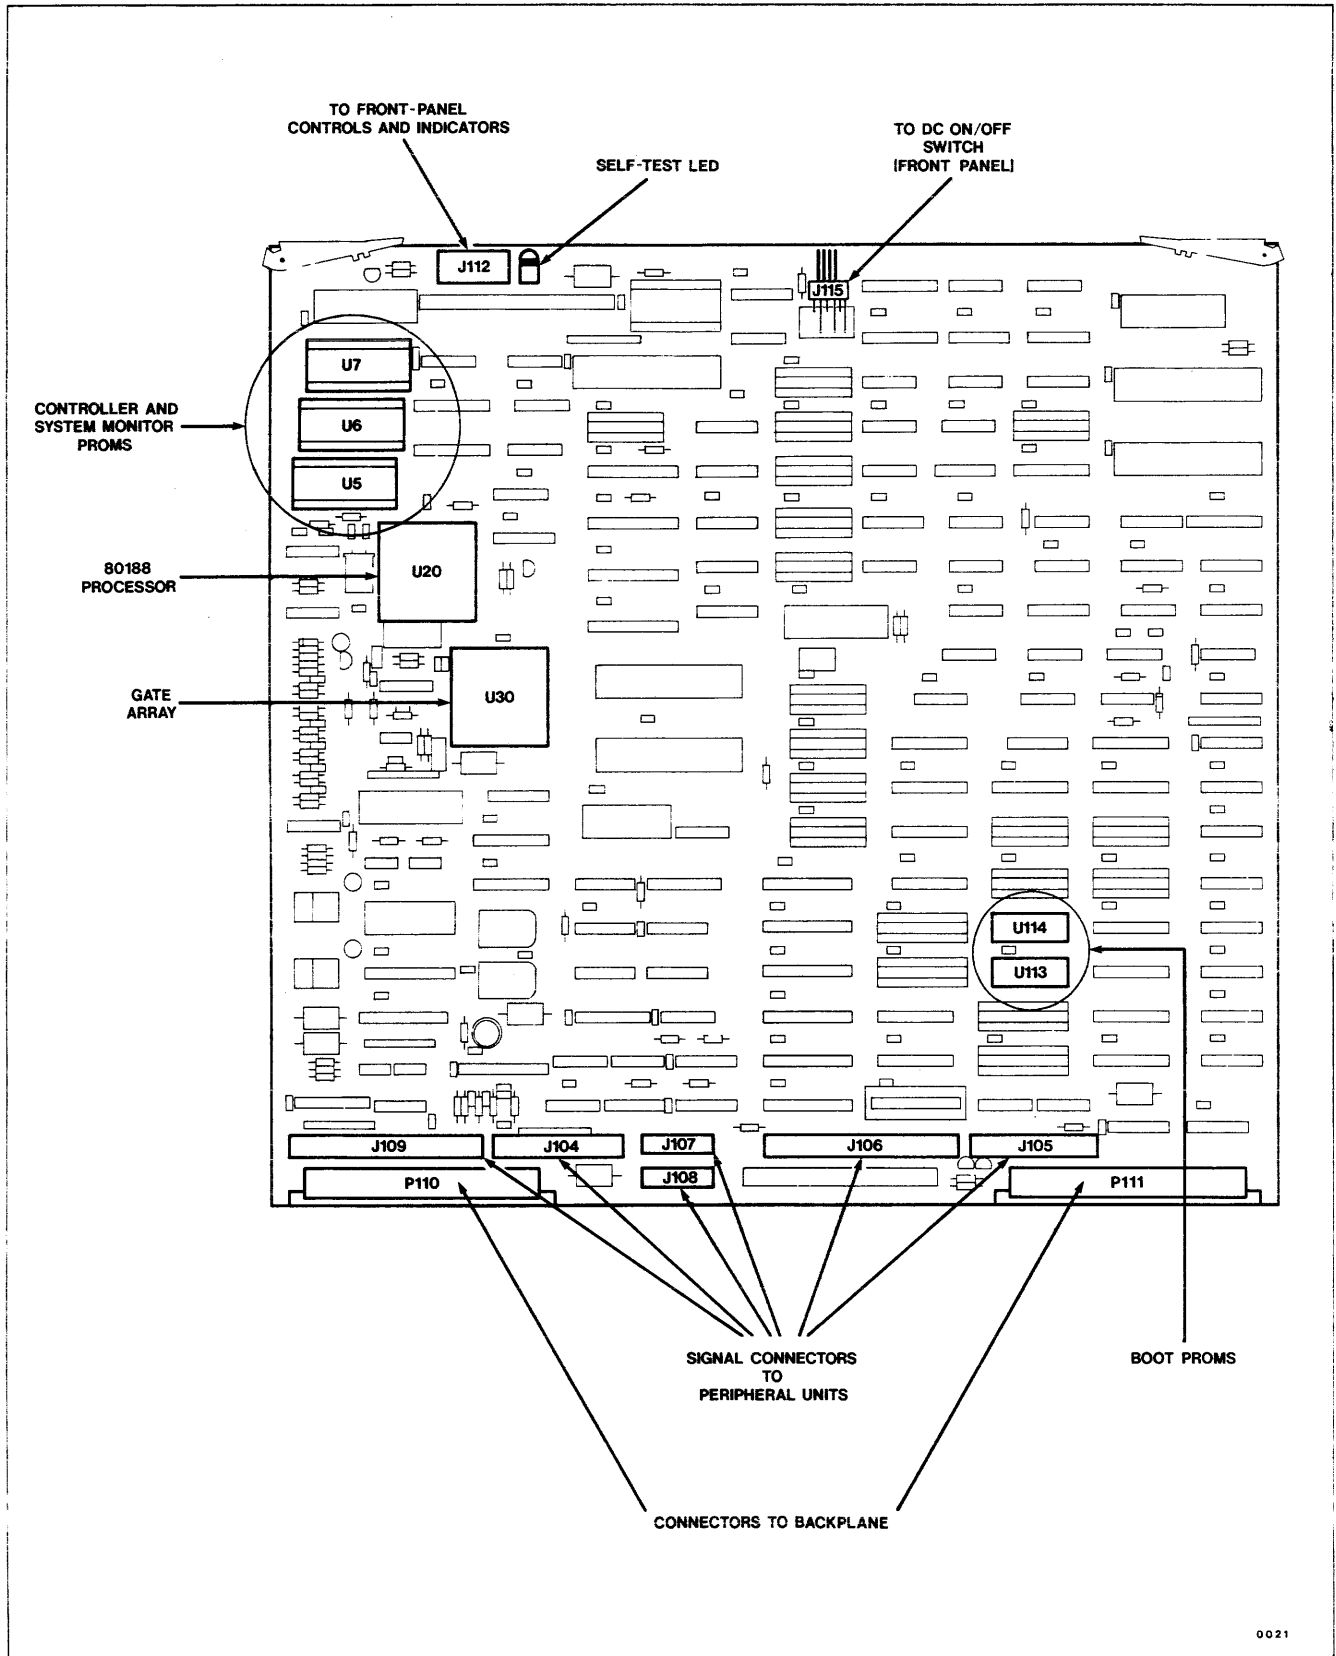

Fig. 1-4 Foundation Module
2. FOUNDATION MODULE (Figure 1-4). The foundation module is a single PCB that is held in place by two slide rails and two latches. It plugs into two connectors at the bottom edge of the backplane.